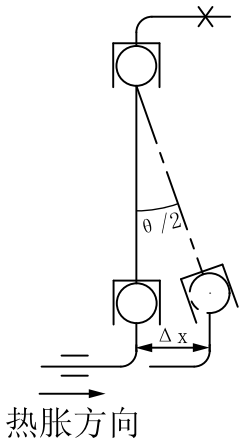
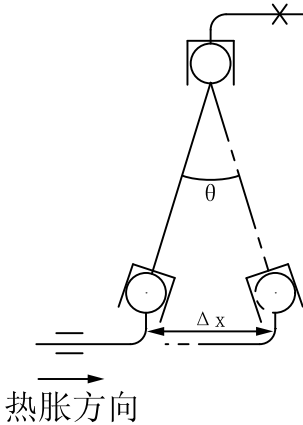

图2 零预折屈角
图3 初预折屈角
2、球头的最大折屈角 θ 本公司设计为 $\pm 15^\circ$ ，试算一下当 $\theta \leq 15^\circ$ 时能否满足管道补偿要求，如果满足则可按图2形式布置无需预拉；反之则应按图3形式布置，应对球补进行预拉，调整球头到所需初始安装角度，同时还需注意安装的球体角位移折屈角 θ 不超过产品规定的角度，试算一下应使初始安装角度能够满足管道补偿要求。
2. The maximum fold bending Angle θ of the ball is $\pm 15^\circ$, try work it out whether when $\theta \leq 15^\circ$ can meet the requirements of pipeline compensation, if satisfied, it can be arranged according to figure 2 without prepositioning; if not satisfied, it can be arranged according to figure 3 with prepositioning; Adjust the ball head to the required initial installation Angle, it is also important to note that the ball angular displacement fold bending angle θ is not exceeding the specified Angle of the product. Try to calculate the initial installation Angle to meet the pipe compensation requirements.
FIG. 2 zero preforming bending Angle
FIG. 3 preliminary fold bending Angle